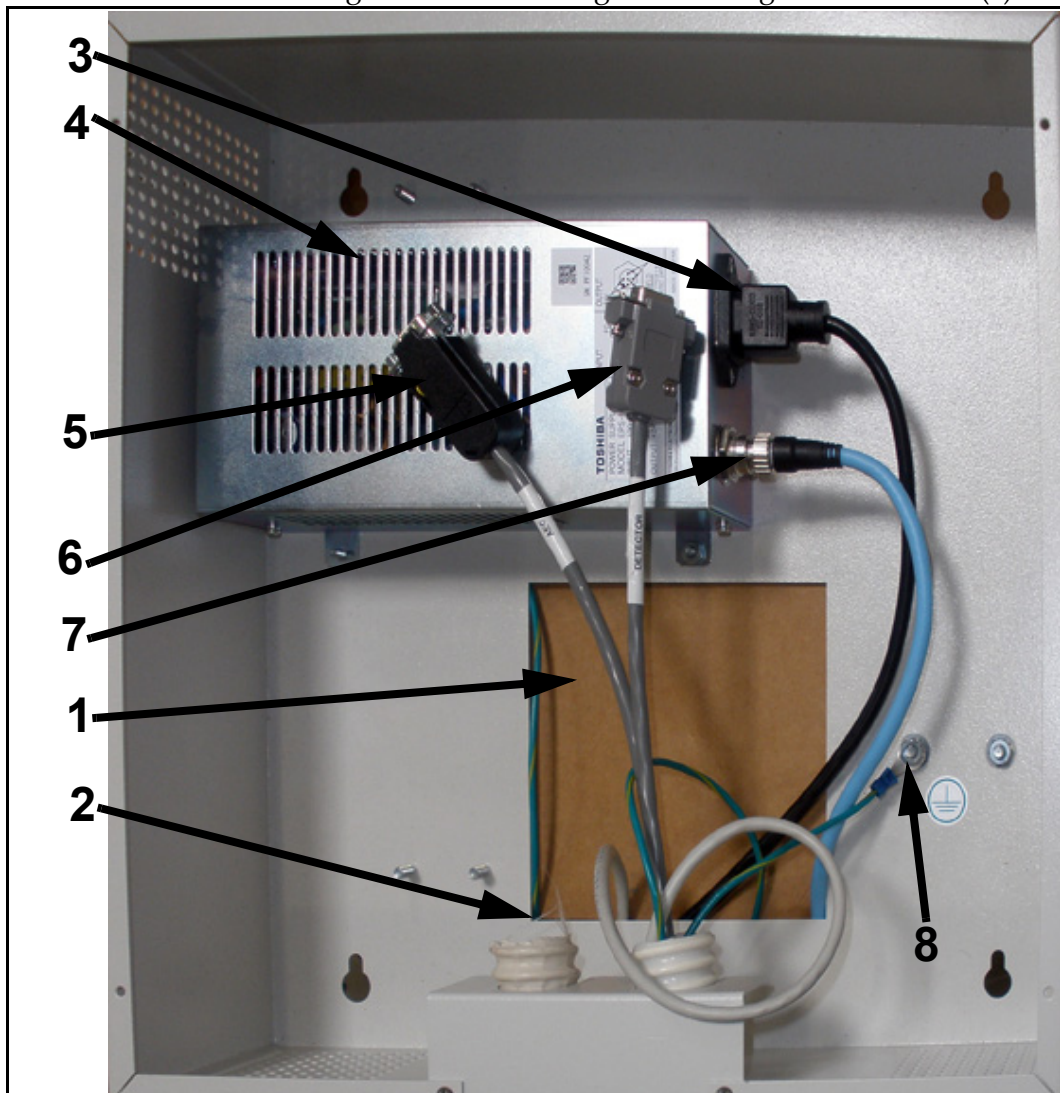

Figure E-25. Junction Box Connections
All cables can be routed either through wall conduit port (1 in Figure E-25) or conduit tubing (2).